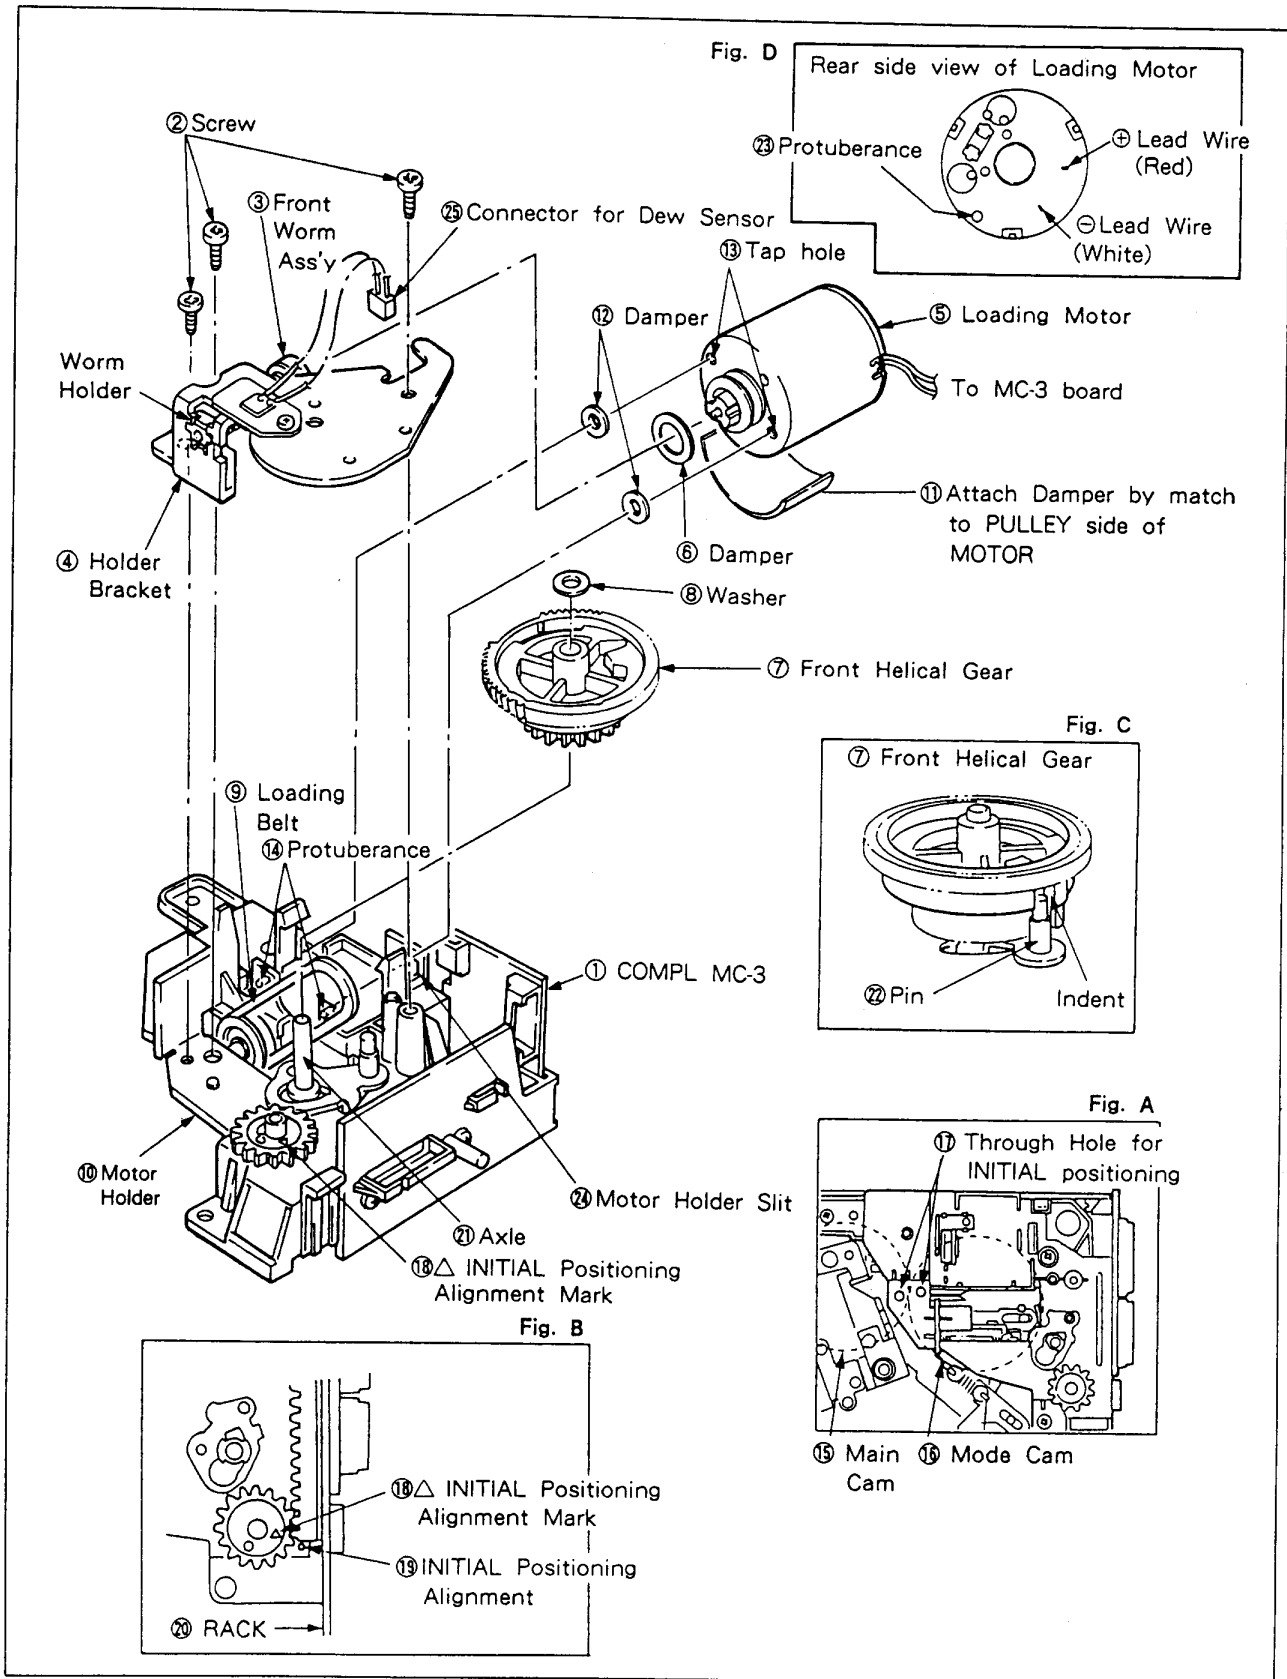

Fig. 5-3-2. Loading Motor
### 5-3-2. Loading Motor (Refer to Fig. 5-3-2.)
- 2) Solder the lead wire from the MC-3 board to LOADING MOTOR ⑤ terminal. (Solder the red lead wire to the positive terminal side.)
- 3) Hang LOADING BELT ⑨ on the pulley.
- 4) After hanging BELT ⑨ on the pulley, confirm that the mechanism unit is in the initial mode. The initial mode is indicated by Fig. A of Fig. 5-3-2., and is the position in which INITIAL POSITIONING ALIGNMENT HOLES of MAIN CAM ⑰ and MODE CAM ⑱ are lined up with THROUGH HOLE ⑲ of MOTOR HOLDER. If the initial mode is not selected, adjust with MODE SELECTOR (VHJ-0050).
- 5) As shown in Fig. B, confirm the positions of the  $\Delta$  POSITIONING ALIGNMENT MARK on FRONT LOAD GEAR ⑲ and INITIAL MARK ⑳ position of MOTOR HOLDER and the position relationship of CASSETTE HOLDER RACK ㉑.
- 6) Apply a light coat of grease to the entire sides of AXLE ㉒ and FRONT HELICAL GEAR ⑦.
- 7) Attach FRONT HELICAL GEAR ⑦ and WASHER ⑧ to AXLE ㉒. As shown in Fig. C, FRONT HELICAL GEAR ⑦ is attached so that the indent on the side is inside PIN ㉓ of FRONT LEVER ASS'Y.
- 8) Attach DAMPER ⑥ to LOADING MOTOR ⑤ pulley.
- 9) HOLDER BRACKET ④ is attached by engaging FRONT WORM ASS'Y ③ with LOADING MOTOR ⑤ pulley, and held in place with three screws ②.
- 10) Attach the connector of DEW SENSOR ㉔ to the MC-3 board ① and return the mechanism to the eject completion using MODE SELECTOR.